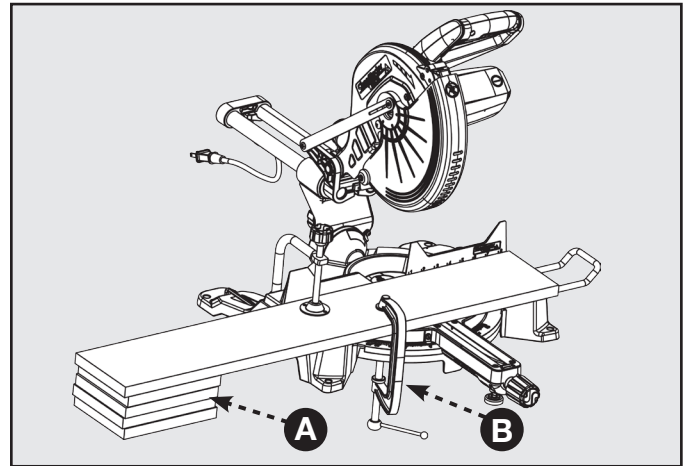

FIGURE 20
In most cases the included table extensions (workpiece supports) will be sufficient to support longer workpieces. If these are not long enough, the workpiece should be supported further out from the saw. Additional support (A) may be used to make the workpiece lay flat on the saw table. Use the included work clamp or a C-clamp (B) to secure the workpiece to the miter saw table. See Figure 20.